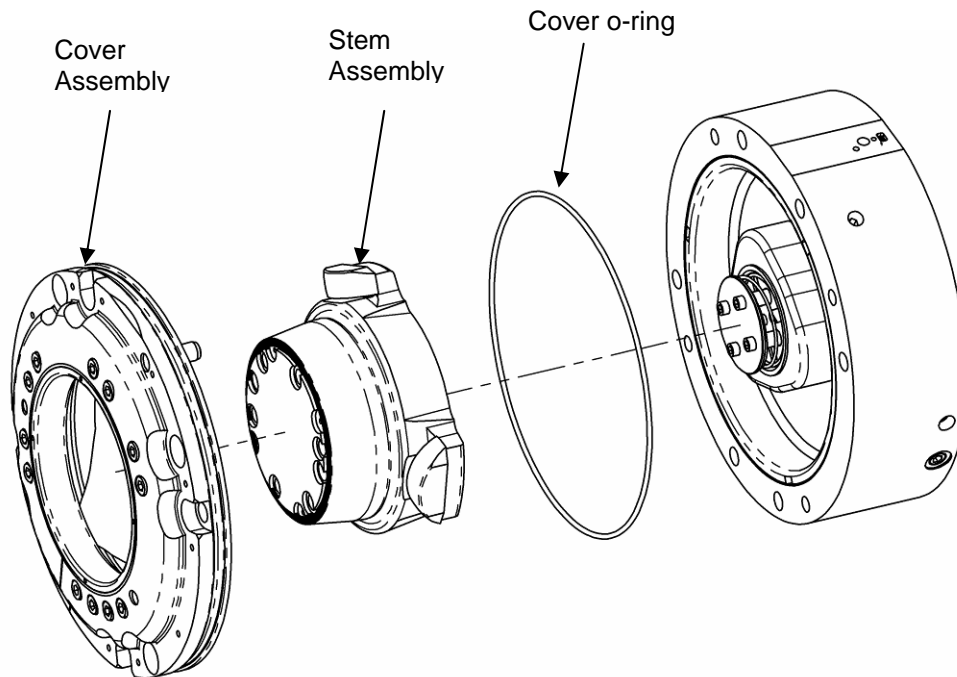

Figure 2.4—Removal of Cover Plate, Stem Assembly, and O-ring
3. Remove the stem assembly and cover o-ring and set aside (see Figure 2.4).